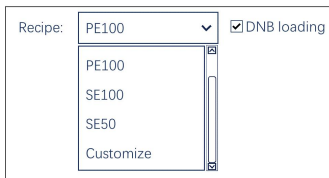

Figure 8-6: Select sequencing solutions
- If you choose one-click sequencing and DNBs will be loaded on the sequencer, check the “DNB loading” box (see Figure 8-6). Otherwise leave it blank and then go to step 8.4. If you choose “Customize”, continue performing the following steps.